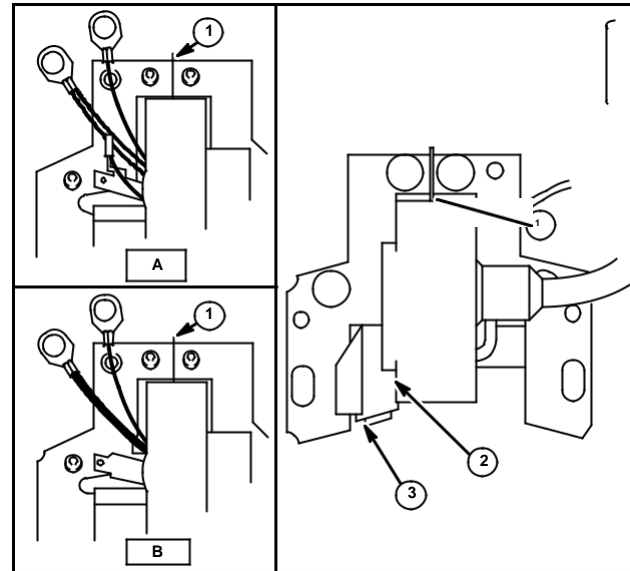

Fig. 11
Magnetron has been produced in two versions, composite Type I (Inset A), Type II (Inset B), and replaceable module (2), Fig. 11.
NOTE: Magnetron ignition armatures used on Model Series 120000, 280000 do not have a visible trigger pole (3) and do not have a Mylar spacer (1), Fig. 11.